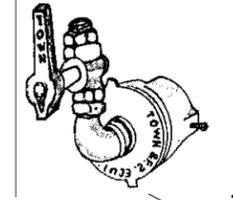

figure 3
- With all pilots lit, turn each main burner valve counterclockwise to **ON** position (figure 3, previous page). Observe through the ports that all burners are lit with a clear, blue flame about 2" long. Each burner has an adjustable air mixer that has been preset at the factory but may need to be adjusted depending on altitude and gas composition.
To adjust air/gas mixture, loosen air shutter locking nut. Turn burner valve to full "ON" position as in figure 3 below. Adjust air shutter until proper blue flame is burning on both rings. Tighten locking nut on air shutter after making adjustments and turn off the burner.